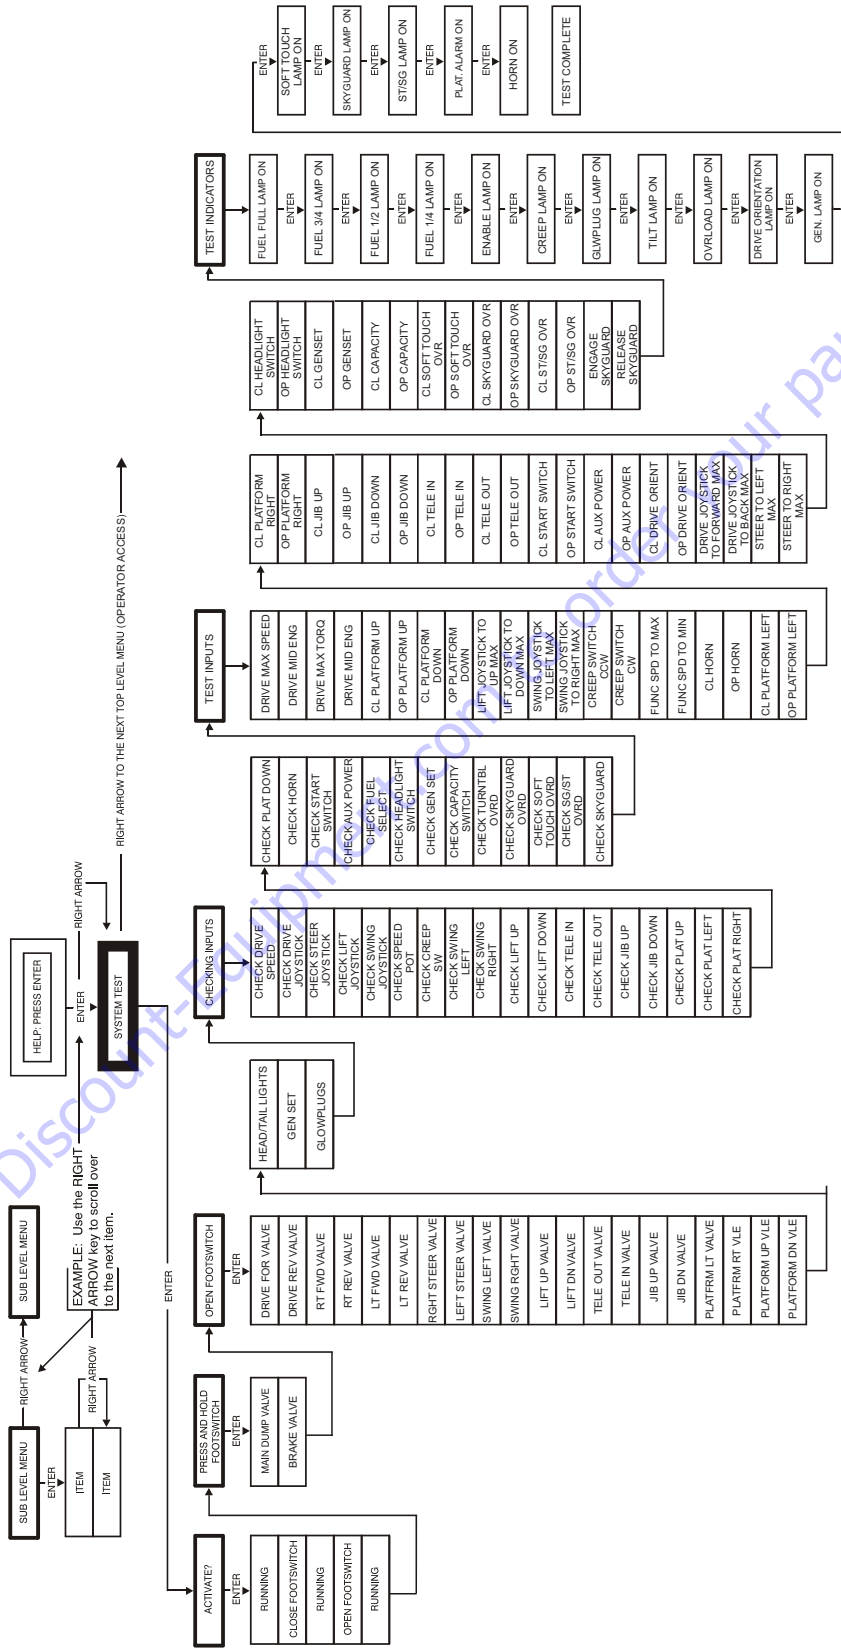

Figure 6-21. System Test Flow Chart- Platform Tests
6. Follow the flow path in (See Figure 6-21.), System Test Flow Chart - Platform Tests and go through the component tests. Hit the ESC key during any part of the test to return to the main menu without completing all tests or wait until all tests are complete. During the TEST ALL INPUTS sequence, the analyzer allows control switches to be operated and shows if they are closed (CL) or open (OP).